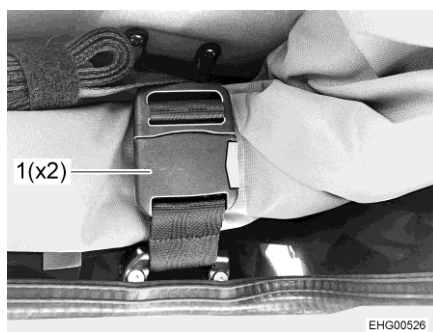

Fig. 52 Belt lock
- Open both belt locks (Fig. 52,1).